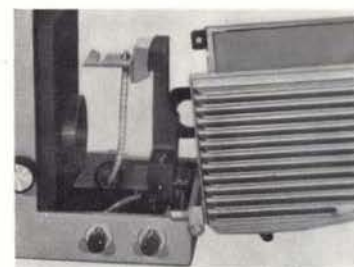

Fig. 5
- 1) Loosen the clamping screw holding the lamp house cover in place and flip the cover backward. (Fig. 5)